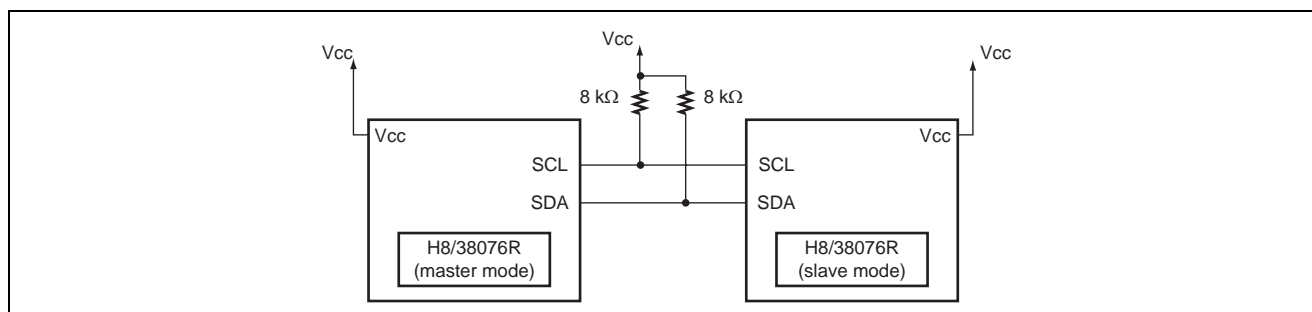

Figure 1 Connection Diagram for Master-Slave Communication Using the I²C Clock-Synchronous Serial Format
- The I²C clock-synchronous serial format of the H8/38076R is used for communication between microcomputers as shown in figure 1.